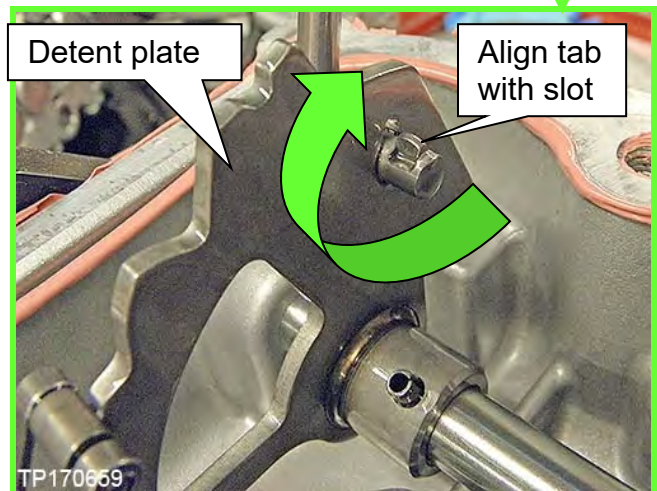

Figure 7H
- Rotate the parking rod vertically to align the tab on the parking rod (Figure 7H) with the slot on the detent plate and then separate from the detent plate.